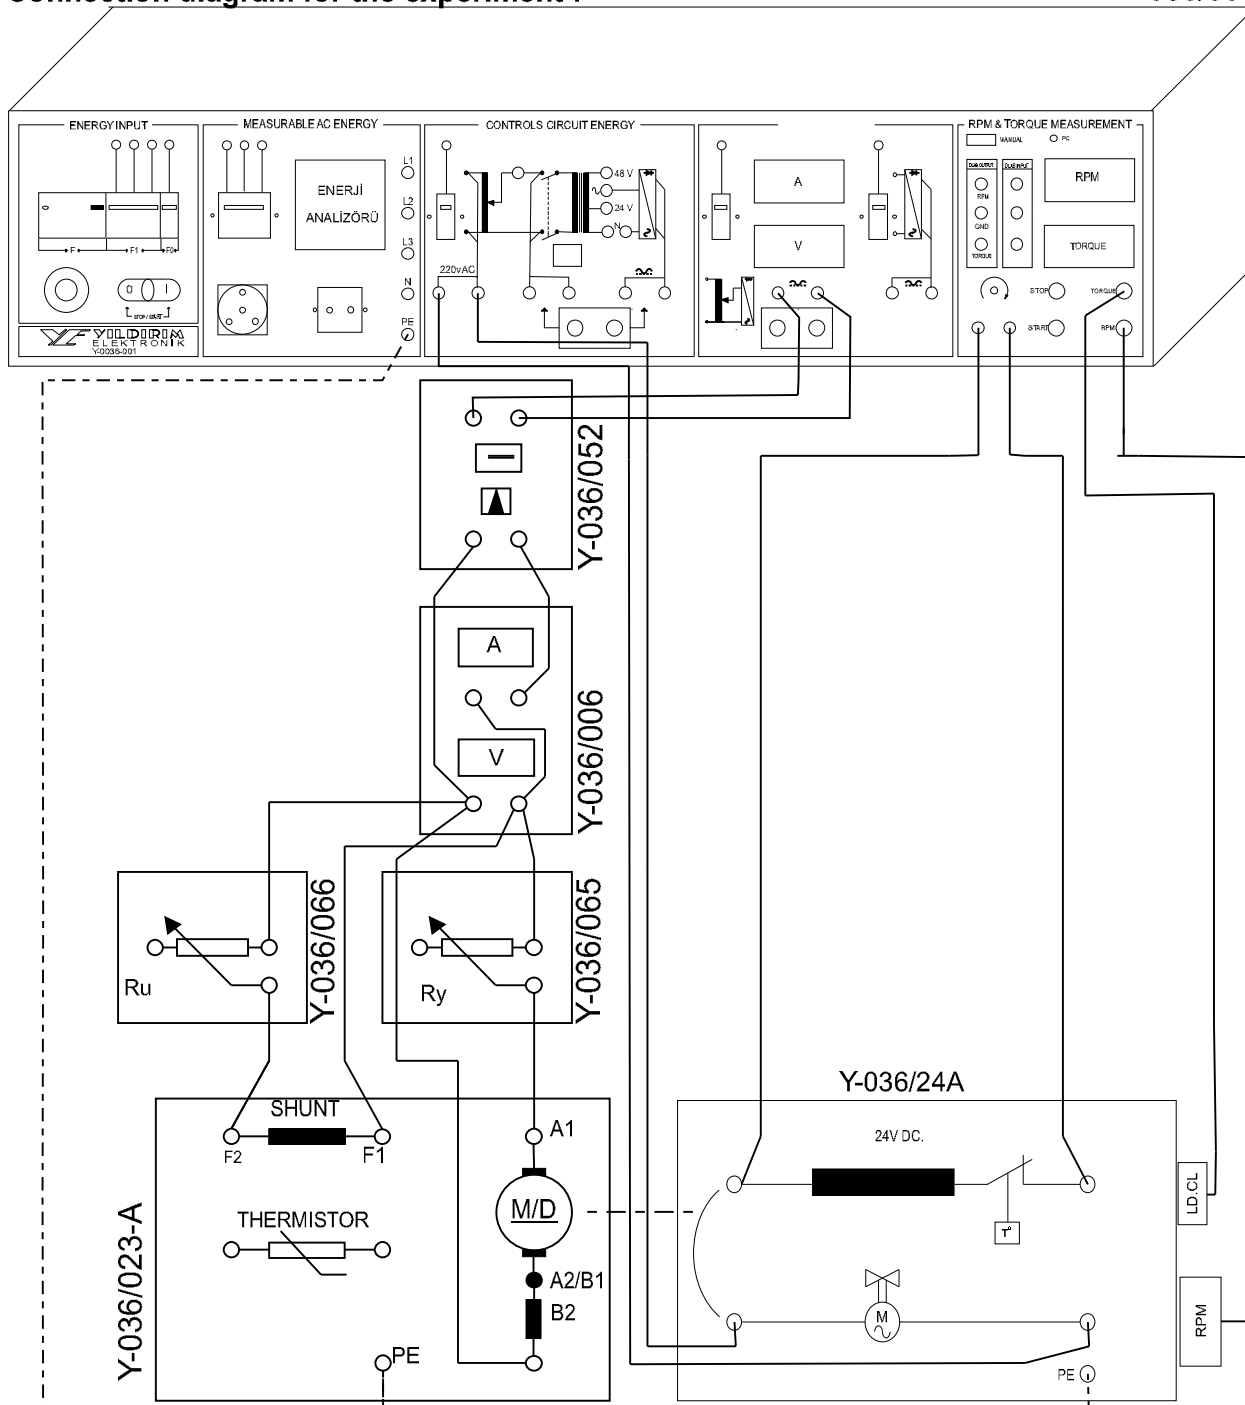
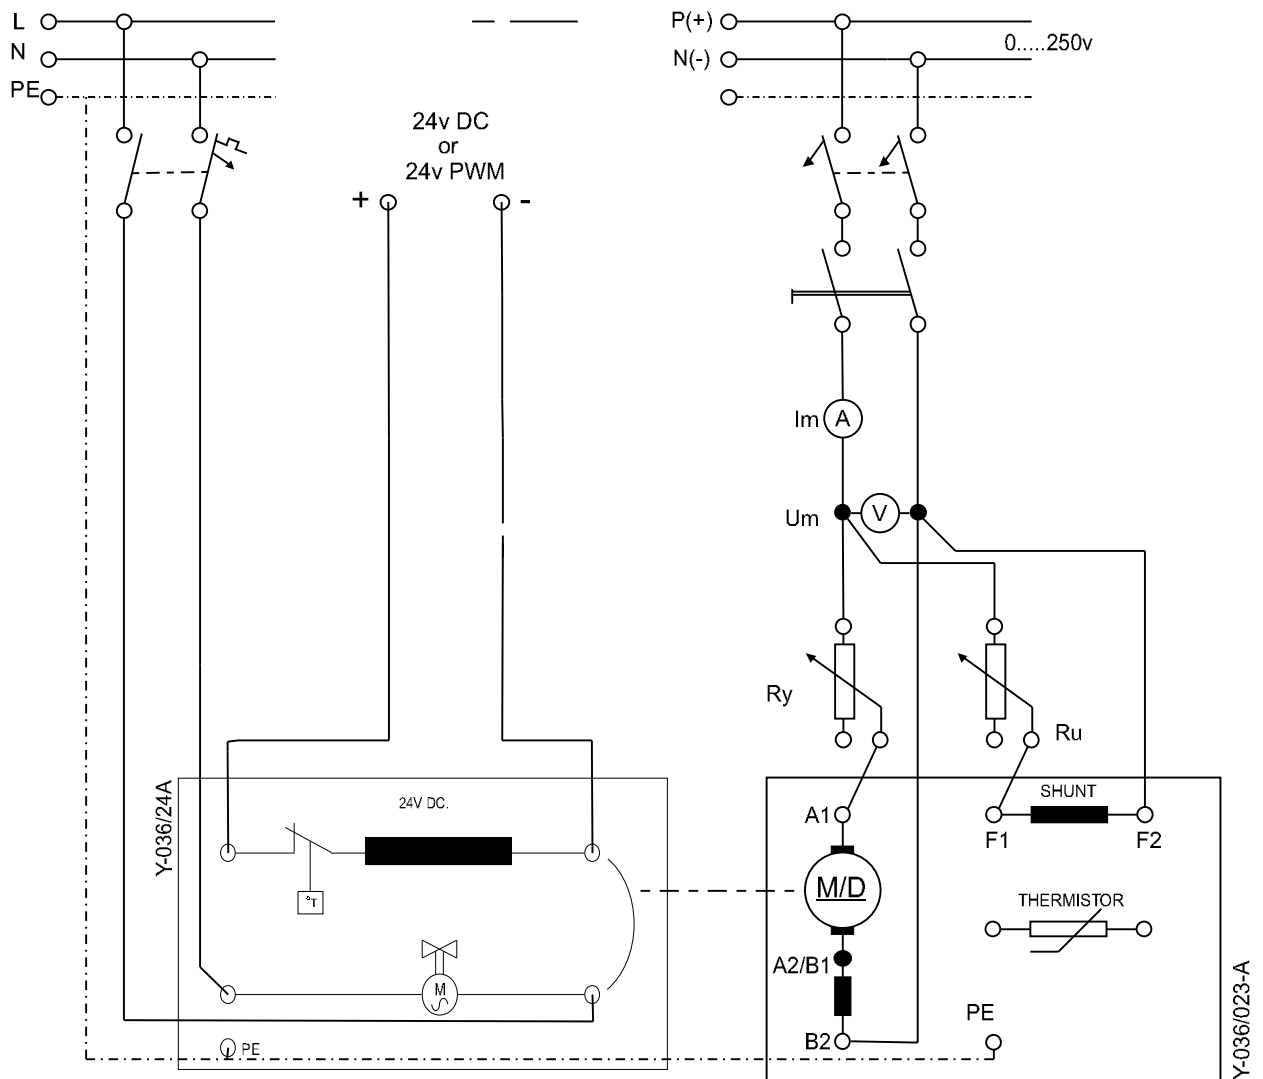

Figure 10.1: Connection diagram for the loaded operation of the DC shunt motor
Figure 10.2: Connection diagram for the loaded operation of the DC shunt motor
*Before applying power to the DC shunt machine set the starter rheostat (RL) to its maximum position and set the excitation rheostat(Re) to its minimum position.
-Connect the circuit shown in figure 10.1 and figure 10.2.